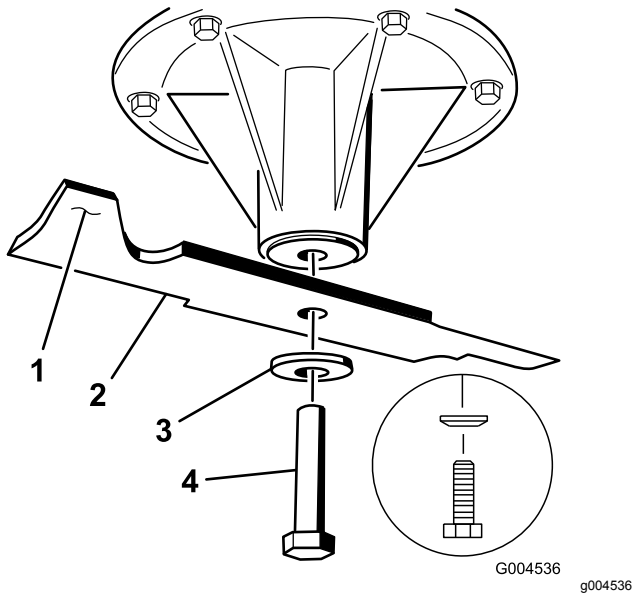

Figure 98
2. Remove the blade bolt, curved washer, and blade from the spindle shaft (Figure 98).
1. Install the blade onto the spindle shaft (Figure 98).
2. Install the curved washer and blade bolt (Figure 98).